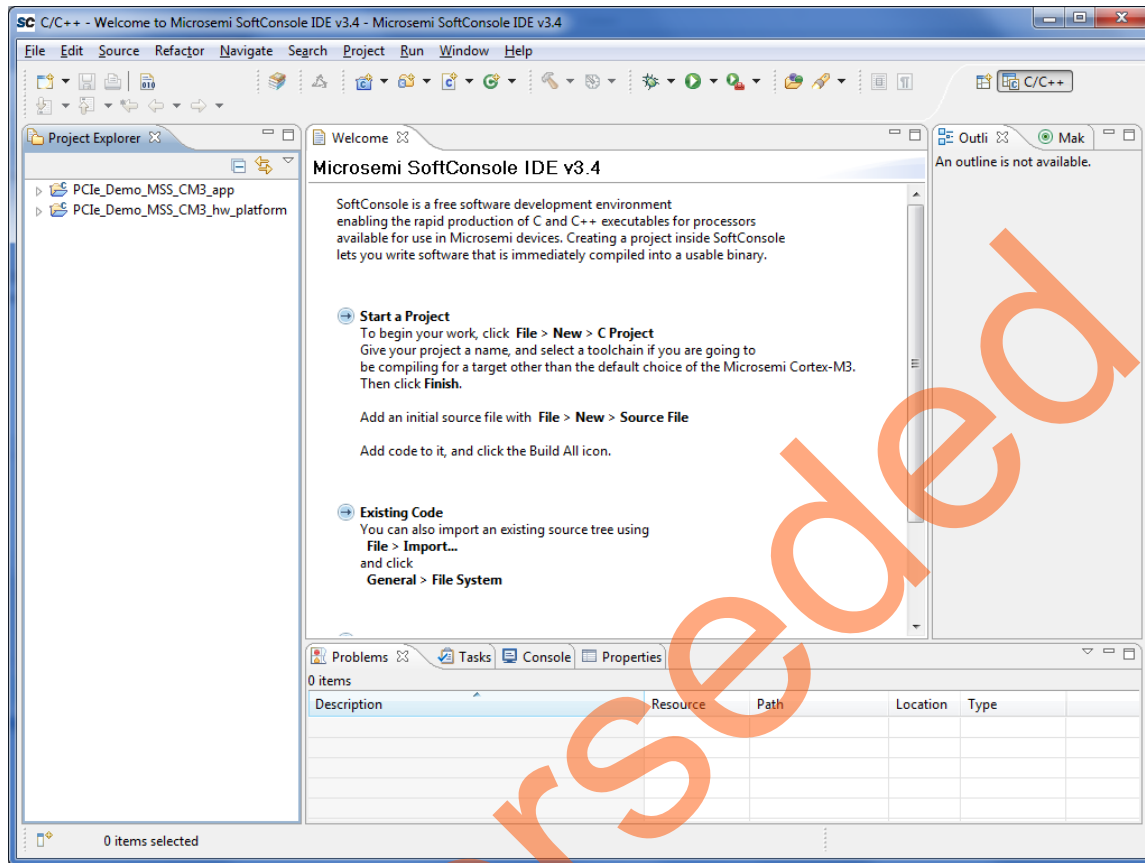

Figure 33 • SoftConsole Workspace
e. Click **Finish**. The **SoftConsole Workspace** window is displayed as shown in Figure 33.